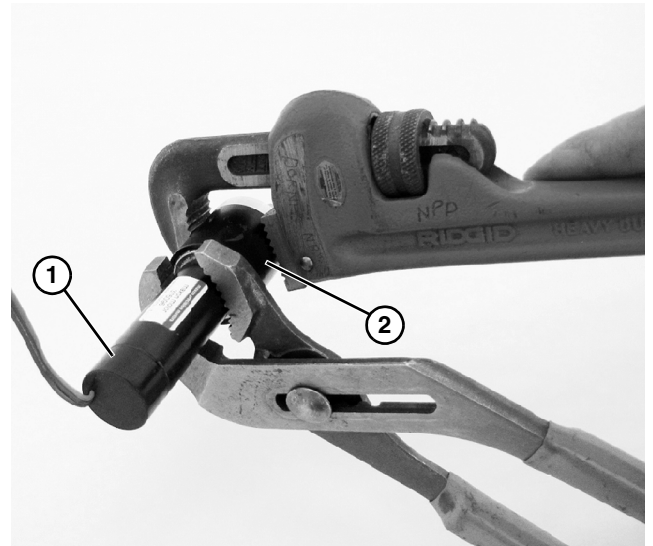

Figure 3
2. Unscrew motor (**Figure 3, item 1**) from gear reducer (**Figure 3, item 2**) using two adjustable pliers, being careful not to deform or crush motor.